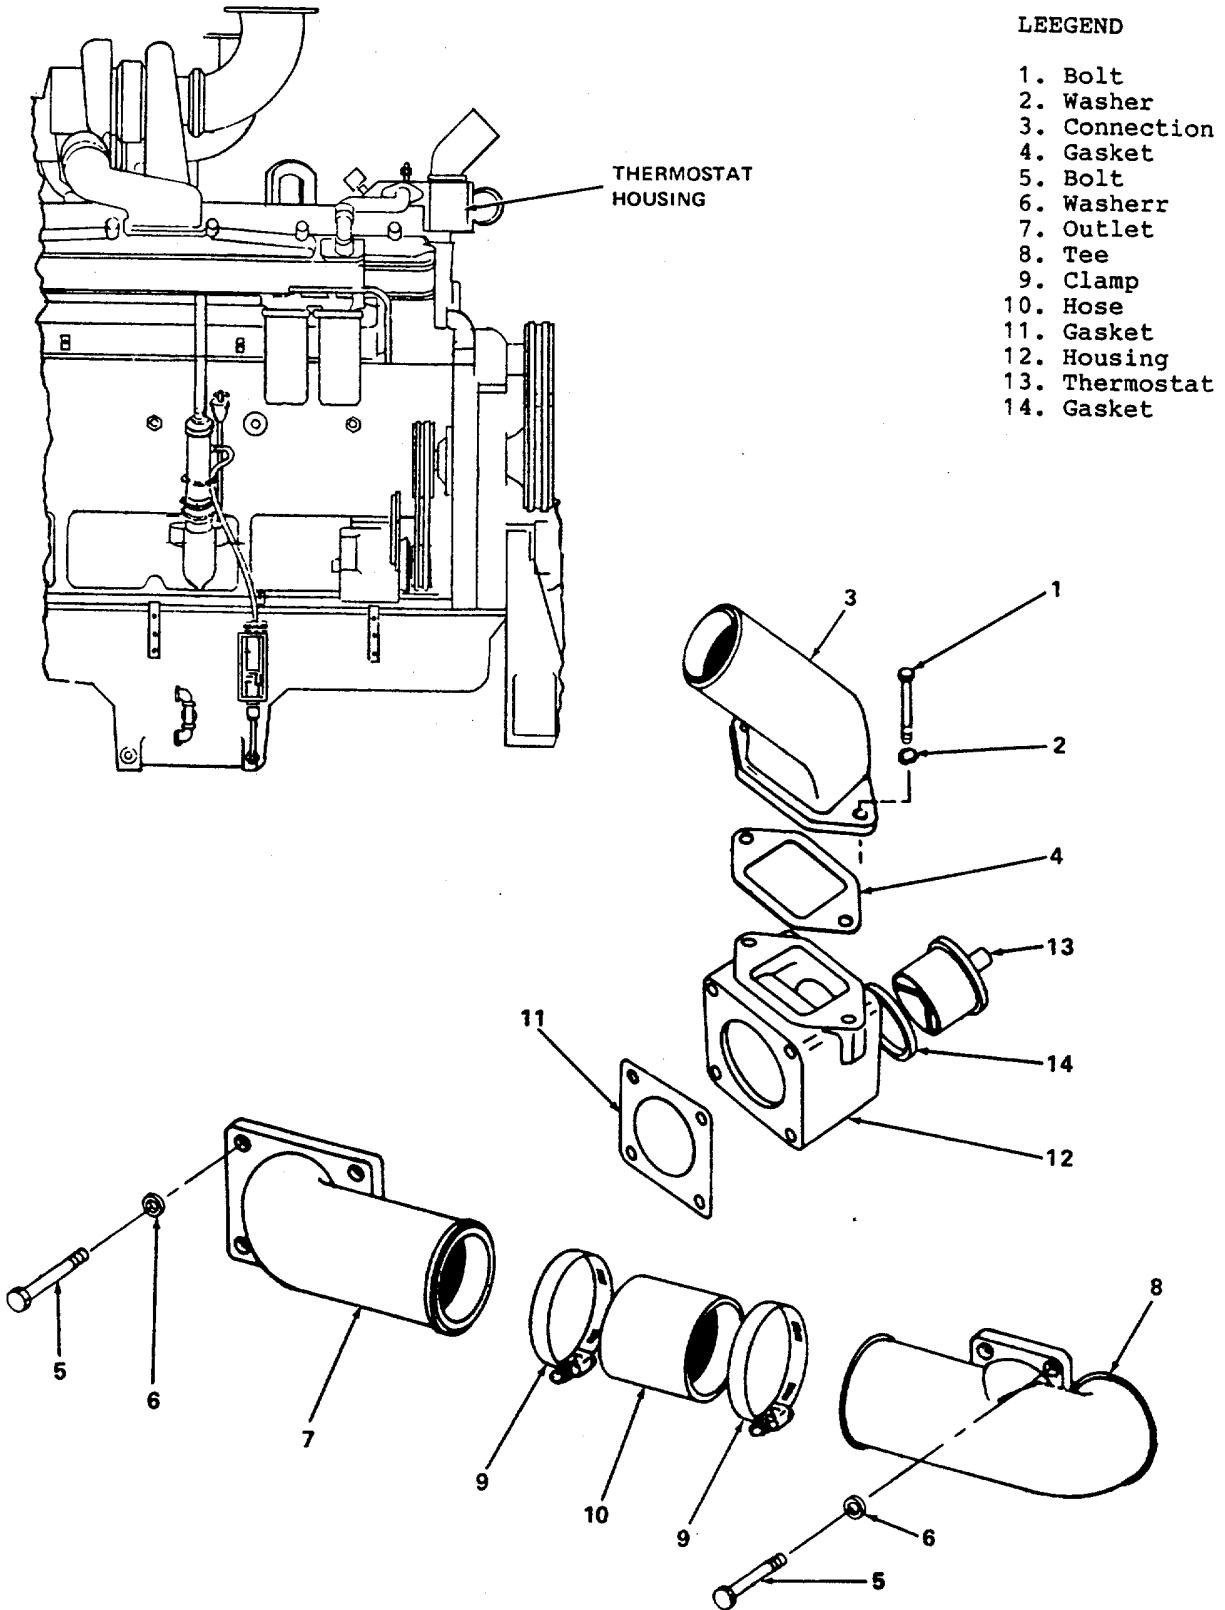

Figure 4-53. Thermostat Removal
4-80. THERMOSTAT. (See figure 4-53.) The thermostats are inside the thermostat housing mounted at the top front of the engine.
a. Removal. Drain coolant and remove assembly (figure 4-53) as follows:
- (1) Remove bolts (1), washers (2), connection (3), gasket (4), bolts (5), and washers (6).
- (2) Loosen clamps (9), then remove outlet (7), tee (8), hose (10), and gasket (11).
- (3) Remove thermostat (13) and gasket (14) from housing (12).